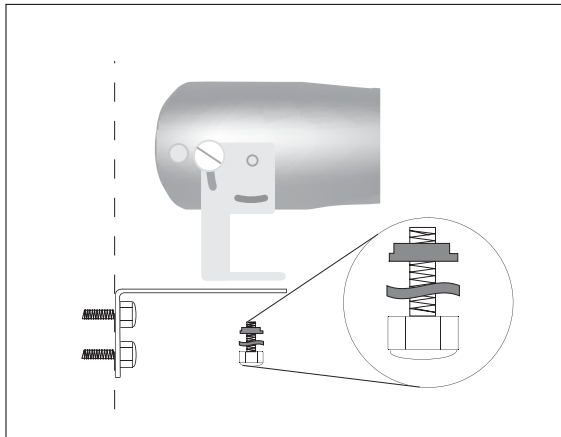

Fig 5 Mounting bracket for beam detector
2. Locate the right-angle fixing brackets for the transmitter and receiver so that they are on the line of sight and are both installed approximately 0.3m to 0.6m below the ceiling. The shorter leg of the bracket is fixed to the mounting surface as shown in Fig 5.
3. Fit the transmitter and receiver to the brackets using the plastic insulating sleeves and washers provided as shown in Fig 5. Align the receiver as accurately as possible to the transmitter by eye. Ensure that the transmitter is fitted so that access to the range potentiometer (under the clear plug on the side) is not impeded.